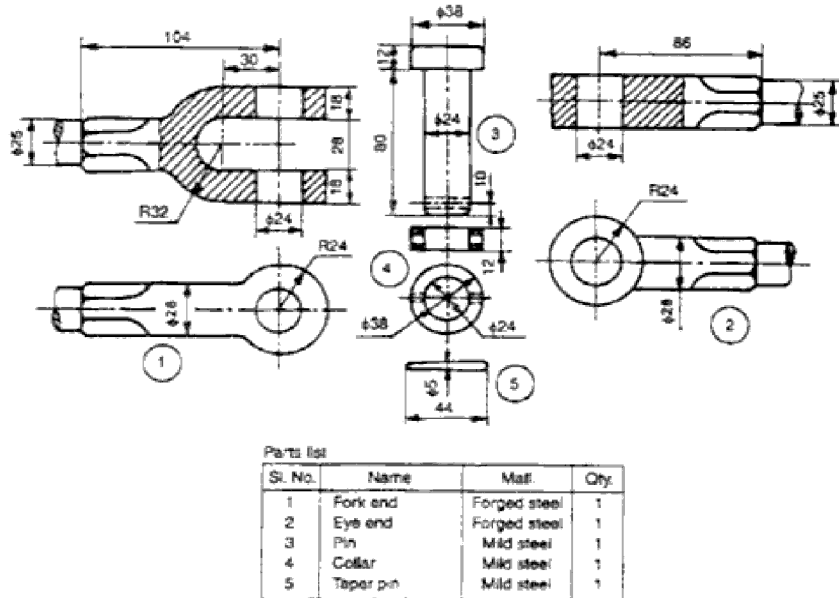

Figure 2
3. Draw full sectional front view and top view of the Knuckle joint whose parts are given in figure 2.